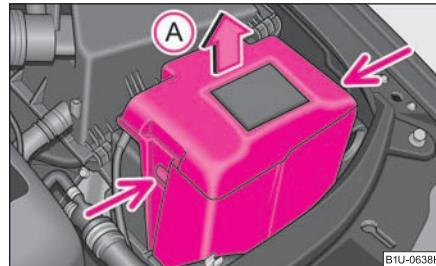

Fig. 150 Engine compartment:
- Press the interlocks on the sides of the battery cover ⇒ fig. 150 and pull the cover upwards see arrow (A).